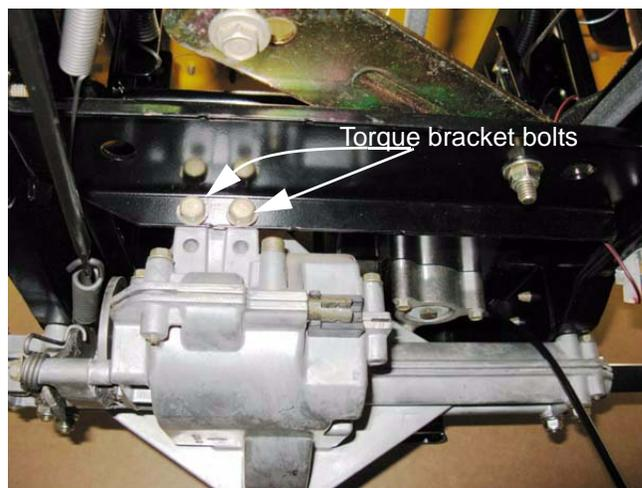

Figure 6.80
10. Remove the torque bracket bolts using a 1/2" wrench. See Figure 6.80.